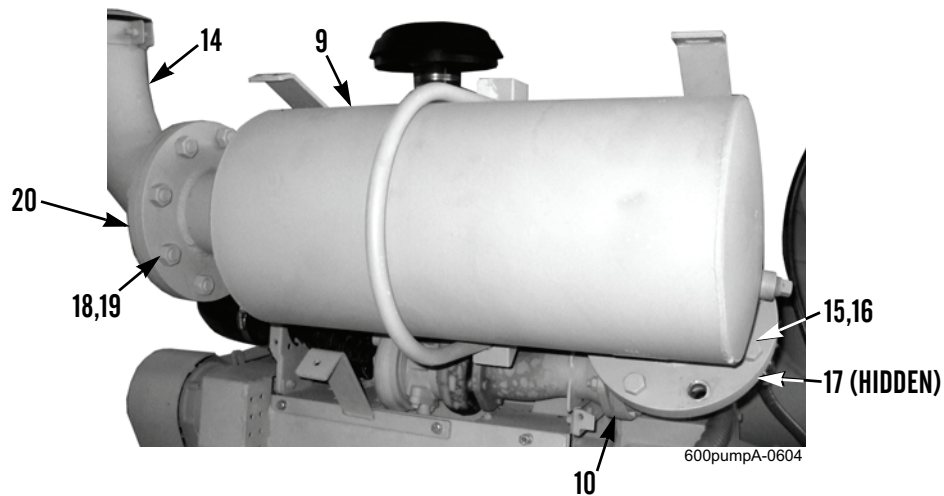

Figure 4. Tail Pipe, Muffler, and Extension Pipe.
3. Remove eight bolts (Figure 4, Item 18), nuts (Figure 4, Item 19), gasket (Figure 4, Item 20), and tail pipe (Figure 4, Item 14) from muffler (Figure 4, Item 9). Discard gasket.
4. Remove seven bolts (Figure 4, Item 15), nuts (Figure 4, Item 16), gasket (Figure 4, Item 17), and muffler (Figure 4, Item 9) from extension pipe (Figure 4, Item 10). Discard gasket.
2. Install new gasket (Figure 4, Item 20), tail pipe (Figure 4, Item 14), eight bolts (Figure 4, Item 18), and nuts (Figure 4, Item 19) on muffler (Figure 4, Item 9).
3. Install new gasket (Figure 4, Item 17), muffler (Figure 4, Item 9), seven bolts (Figure 4, Item 15), and nuts (Figure 4, Item 16) on extension pipe (Figure 4, Item 10).